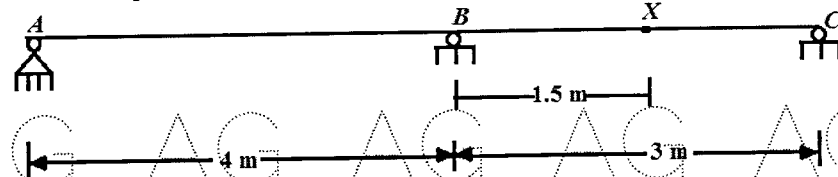

Figure 9
11. Construct the influence line for shear using Muuler-Breslau's principle at section X of member BC of a continuous beam as shown in figure 9. Determine the maximum shear at X when the beam carries a UDL of 25 kN/m which can occupy a single span fully or a portion of a span. EI of the beam is constant throughout. [10]